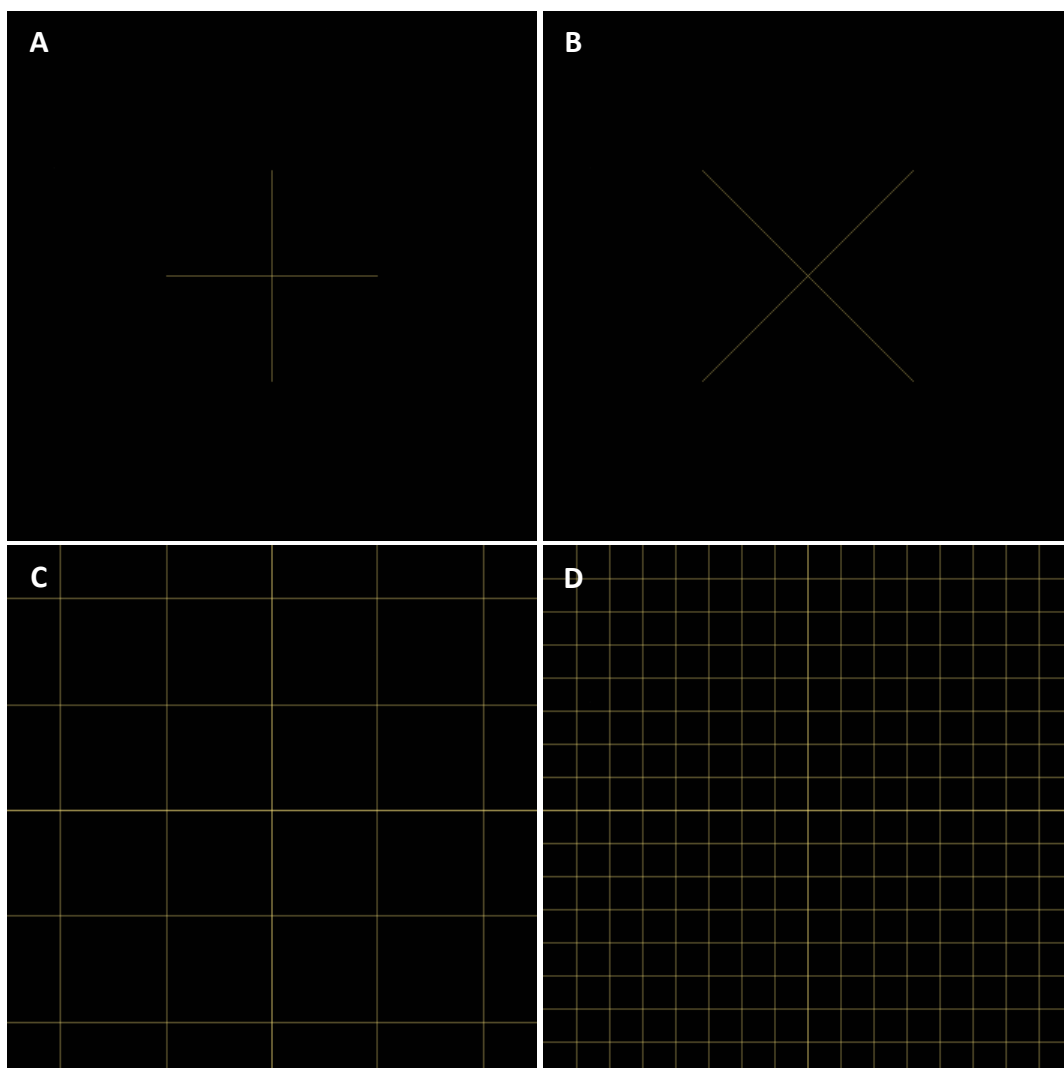

Figure 28 – Grid lines patterns
- Center Cross (X) – see Figure 28 (A)
- Center Cross (+) – see Figure 28 (B)
- Grid lines – see Figure 28 (C)
- Fine grid lines – see Figure 28 (D)